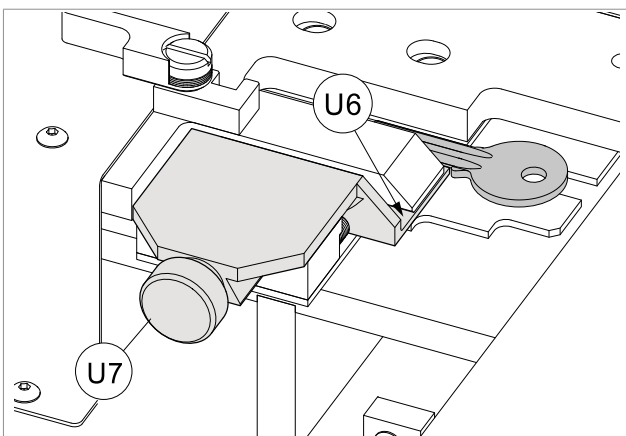

Fig. 107
- 1) Place one of the keys to be inserted into the loader on the slide (Fig. 107).